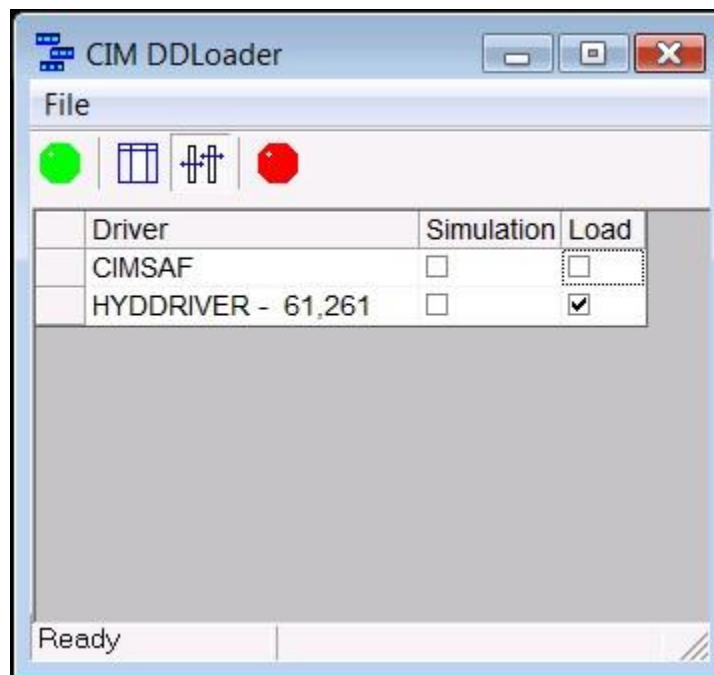

Figure 159: CIM DDLoader
1. Select the **Loader** icon of the workstation where the hydraulic device driver is installed. The CIM DDLoader window is displayed, as shown in Figure 159: CIM DDLoader.